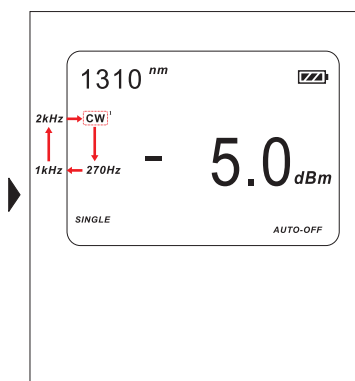

Figure 4-6. Selecting output.
2. Press the **CW/Hz** key to select the output from 270 Hz, 1 kHz, and 2 kHz. See Figure 4-6.